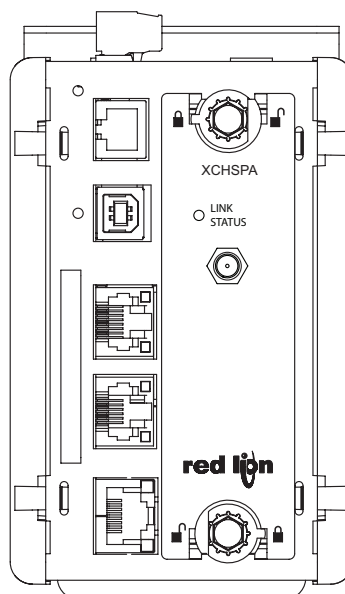

Figure 5
5. Turn the option card knobs to the locked position as shown in Figure 5.